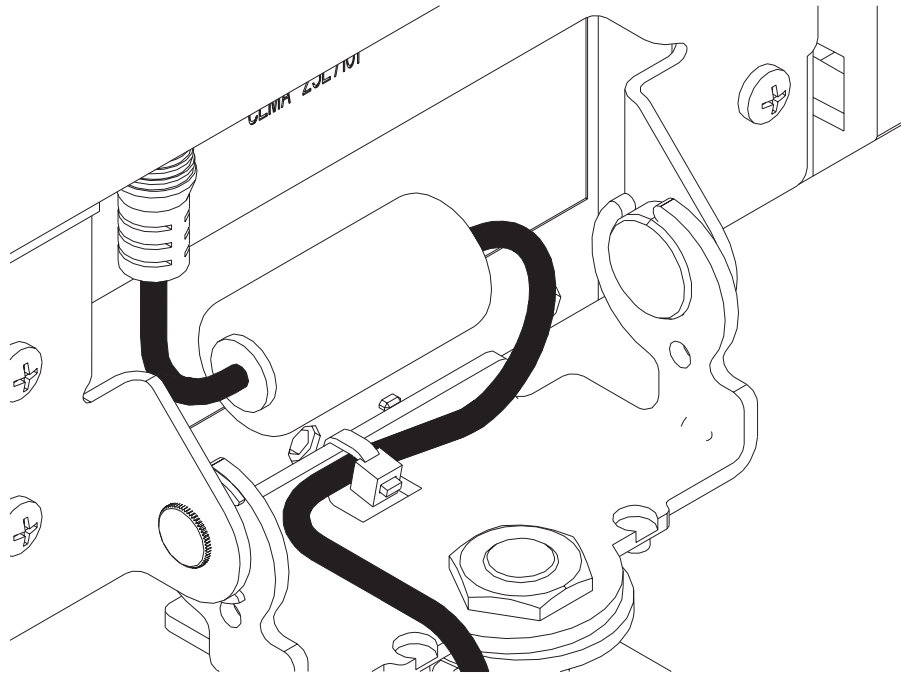

Figure 29. Routing the power cable
4. Route the power cable and secure it to the mounting bracket with a cable tie as shown in Figure 29.